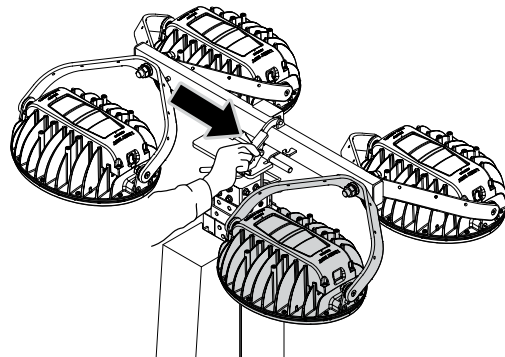

Figure 26. Locking Fold Lever
4. After completely pressing down the light tower, push down the fold lever to lock the lamp stand (Figure 26).